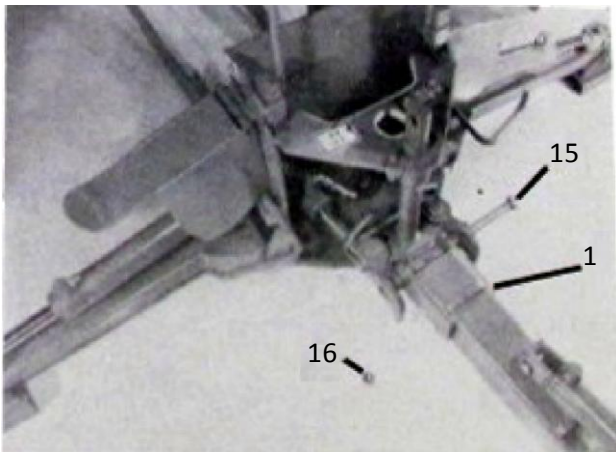

Fig. 2
(1) Remove the $\frac{3}{4}$ " x $10 \frac{1}{2}$ " plated bolt (Item 15 in the main frame assembly) and $\frac{3}{4}$ " self-locking hex nut (Item 16 in the main frame assembly) from the yoke of the swing shaft. Position the base end of the main boom (Item 1) between the mounting ears (use two men or overhead hoist) and secure by re-inserting the $\frac{3}{4}$ " x $10 \frac{1}{2}$ " plated bolt through the yoke ear and boom as shown in Fig. 2. The bolt should be seated (or locked) in the locking ring on the outside mounting ear of the yoke to prevent bolt from turning during operation. Fasten the bolt in place with the $\frac{3}{4}$ " self-locking hex nut, tightening for fit but not sufficiently to warp the yoke mounting ears.